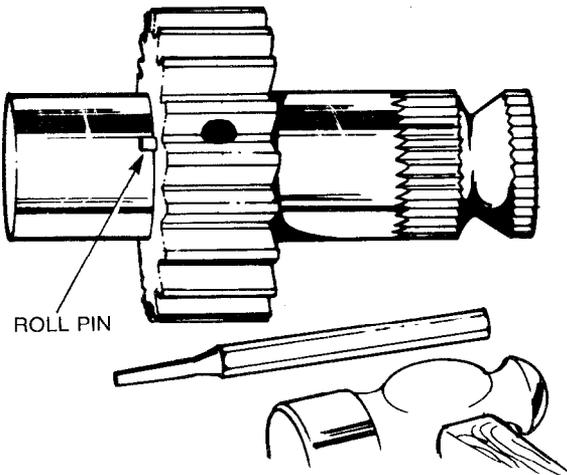

Figure 278 — Roll Pin — Removal
- w. Using a pin punch and hammer remove the roll pin securing the retaining pin in position (see Fig. 278), then drill out the retaining pin.